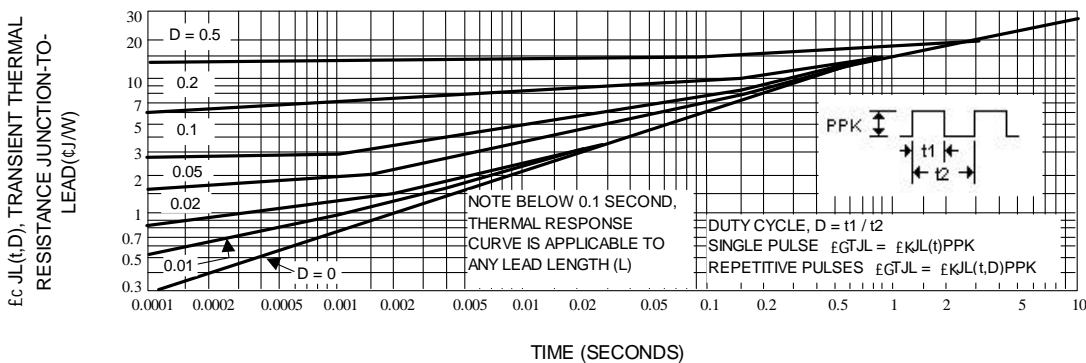
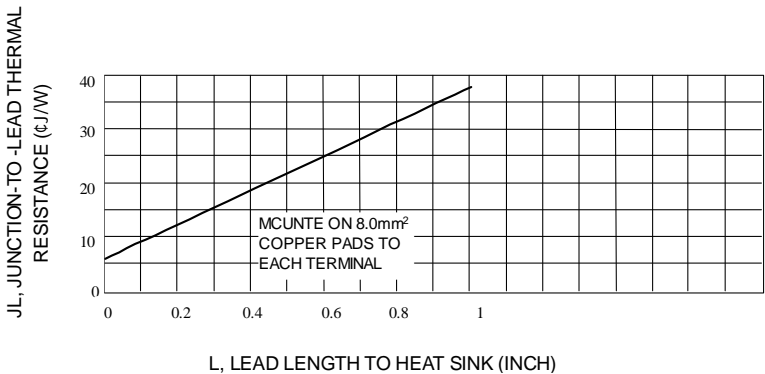
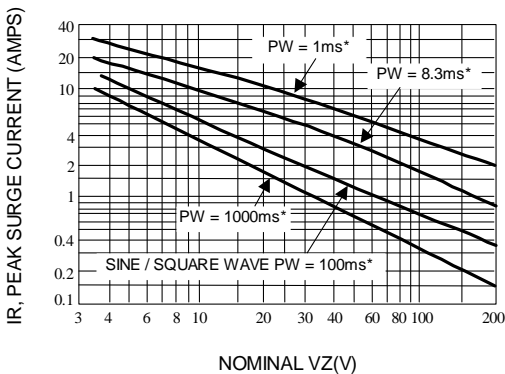
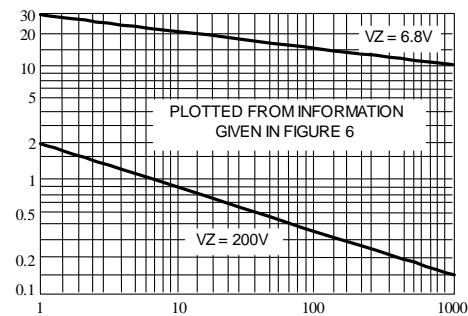

Fig. 3-TYPICAL THERMAL RESPONSE
Fig. 4-TYPICAL THERMAL RESISTANCE
Fig. 5-MAXIMUM NON-REPETITIVE SURGE CURRENT VERSUS NOMINAL ZENER VOLTAGE (SEE NOTE 3)
Fig. 6-PEAK SURGE CURRENT VERSUS PULSE WIDTH(SEE NOTE 3)
3. **SURGE CURRENT (I_r)** - Surge current is specified as the maximum allowable peak, non-recurrent square-wave current with a pulse width, PW, of 8.3 ms. The data given in Figure 5 may be used to find the maximum surge current for a square wave of any pulse width between 1 ms and 1000ms by plotting the applicable points on logarithmic paper. Examples of this, using the 6.8v and 200V zeners, are shown in Figure 6. Mounting contact located as specified in Note 3. ($T_A=25 \text{ }^\circ\text{C}$). ($T_A=25 \text{ }^\circ\text{C}$).
ΔT_{JL} is the increase in junction temperature above the lead temperature and may be found from Figure 3 for a train of power pulses or from Figure 4 for dc power.
Data of Figure 3 should not be used to compute surge capability. Surge limitations are given in Figure 5. They are lower than would be expected by considering only junction temperature, as current crowding effects cause temperatures to be extremely high in small spots resulting in device degradation should the limits of Figure 5 be exceeded.
*** Data of Figure 3 should not be used to compute surge capability. Surge limitations are given in Figure 5. They are lower than would be expected by considering only junction temperature, as current crowding effects cause temperatures to be extremely high in small spots resulting in device degradation should the limits of Figure. 5 be exceeded